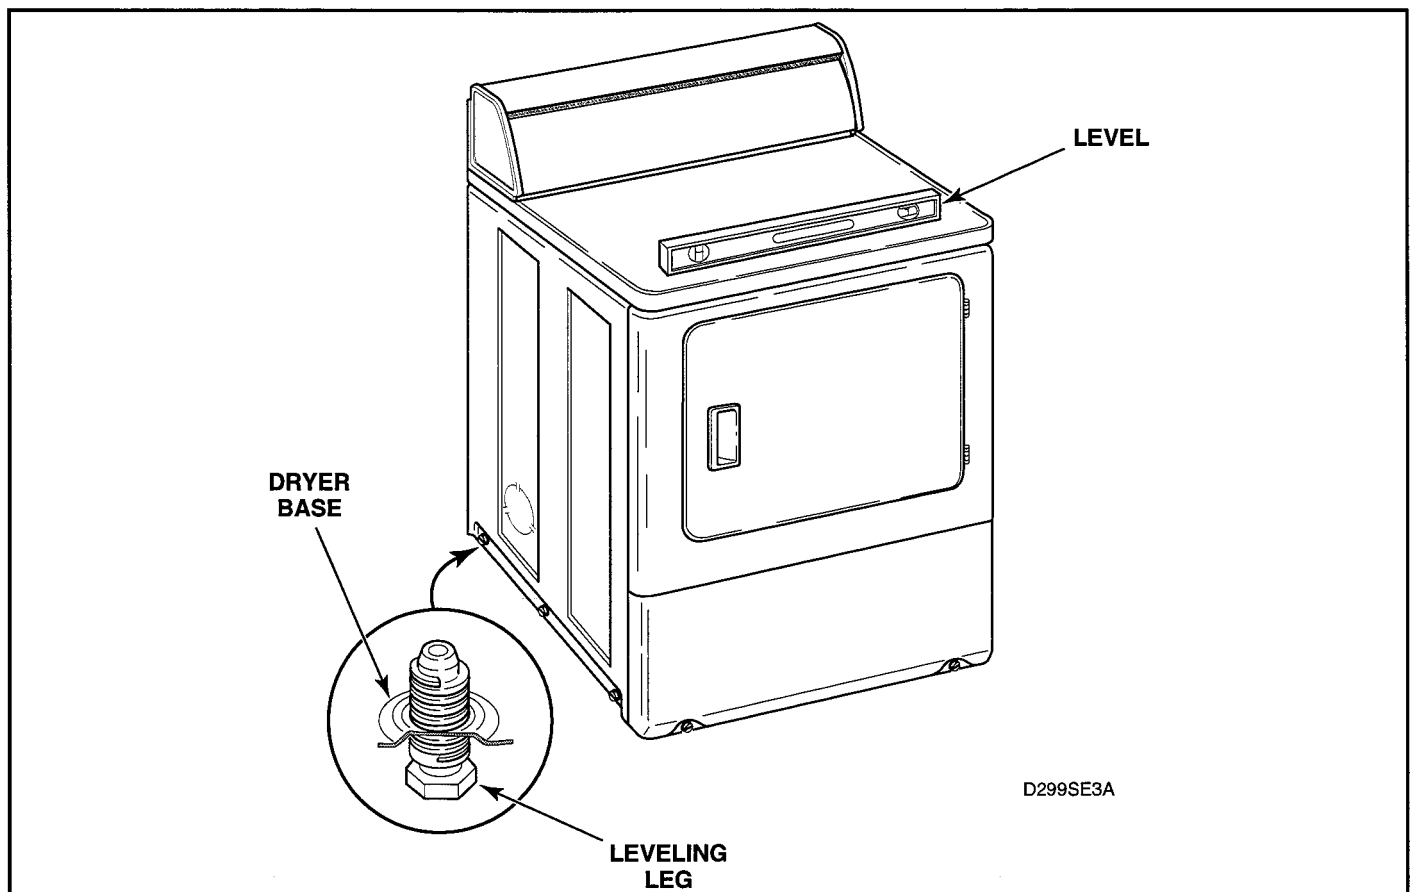

Figure 6-1
- q. Remove leveling legs from base and reinstall on new base. See figure 6-1.
1. LEVELING LEGS (Figure 6-1)